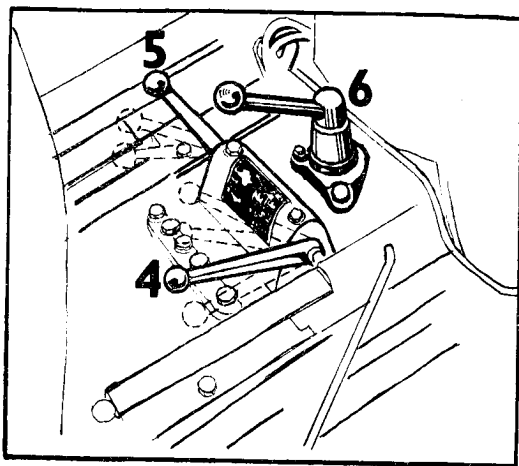

Fig. 4
Clutch disengagement by hand can be carried out for a short period only. There is a left-hand shifting lever, placed on the gearbox cover which serves for permanent disengagement of the PTO (Fig. 4/4).
4. Both the PTO and hydraulic power lift control lever (Fig. 4/4)
5. Reduced and road speeds control lever (Fig. 4/5)
6. PTO revolutions control lever (Fig. 4/6)